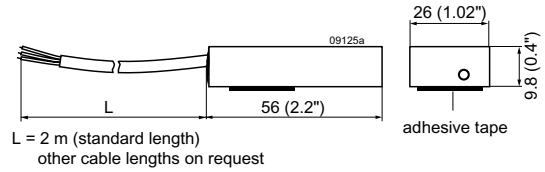

Fig. 32
- Different battery sensors S-KSMH... for using the converter as a battery charger. Different cell characteristics can be selected; see fig. 32, table 12, and *Battery Charging/ Temperature Sensors*.